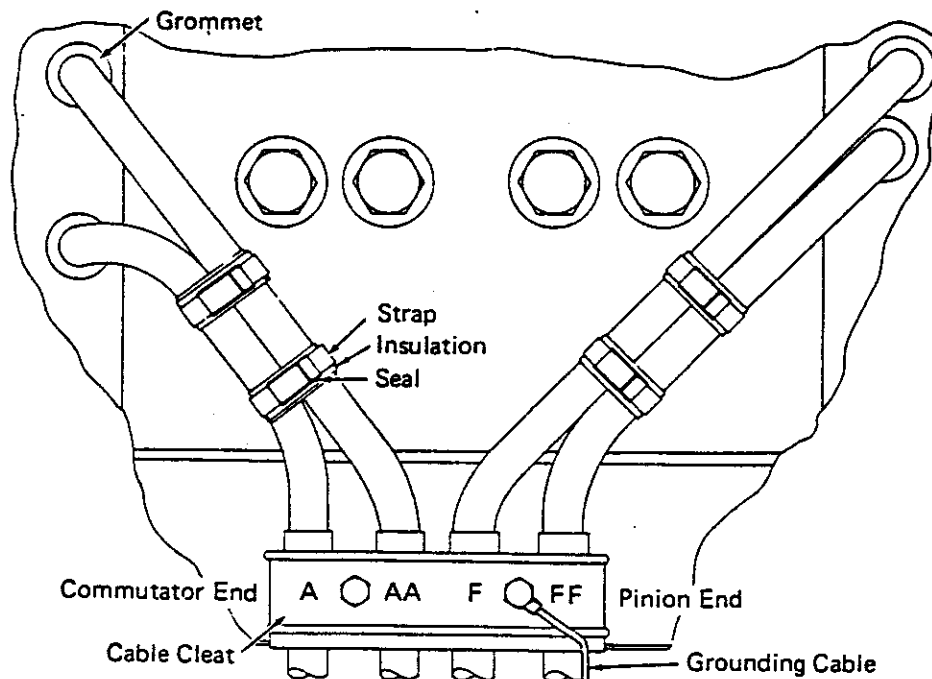

Fig. 27 - Exterior Cable Lead Arrangement
2. Fasten motor leads together in pairs with insulation strips and steel straps on outside of frame. two ties per pair of leads, 76 to 89 mm apart, approximately half way between grommets and cable cleat as shown in Fig. 27. Tighten and cut steel strap with a steel binder set. Lock strap with the strap seal and remove steel binder set.